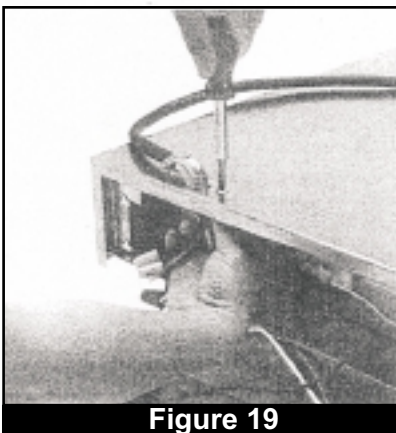

Figure 19
3. Turn the top mounted heating unit over so that the elbow connector for the power cord is up. Free the green ground wire by grasping the nut with fingers or pliers (under front overhang of the heating module) and remove the screw from the exposed surface of the module with a medium (6") phillips screwdriver. (Fig. 19).